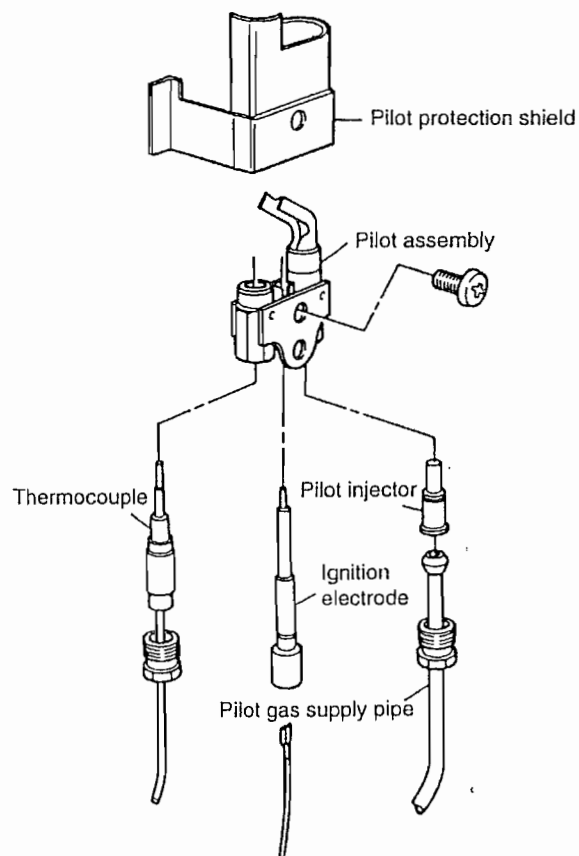

Fig. 36
- i) Unscrew the pilot burner supply compression nut, and remove the supply pipe and injector. (Injector is a sliding fit to supply pipe) (fig. 36).